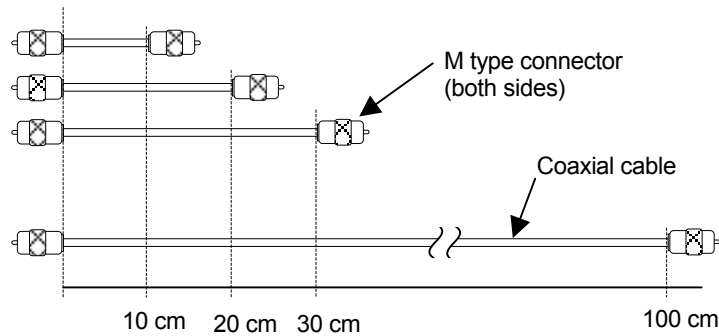

Fig. 12
- (1) Prepare some 10 cm length of extension coaxial cables (e.g. 10 cm, 20 cm, 30 cm, 40 cm. . . . Since wave length of 150MHz is 2 m, it is better to prepare 10 kinds of extension cable from 10 cm to 100 cm at 10 cm steps.) with M type connectors. (Refer to Fig. 12)